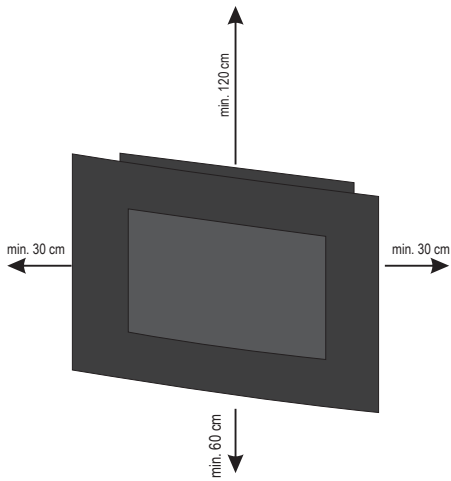

Figure 2 • 2. ábra • 2. obrázek • fig. 2. • 2. skica • 2. obrázek • Slika 2.
8. Never locate the unit directly in corners and observe the minimum locating distances indicated in Figure 2. Always observe the health and safety regulations valid in the country of use.